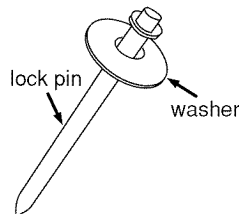

Figure 29
6. Slide washer onto lock pin and place inside upper cabinet for future use as directed on the next page. See Figure 29.